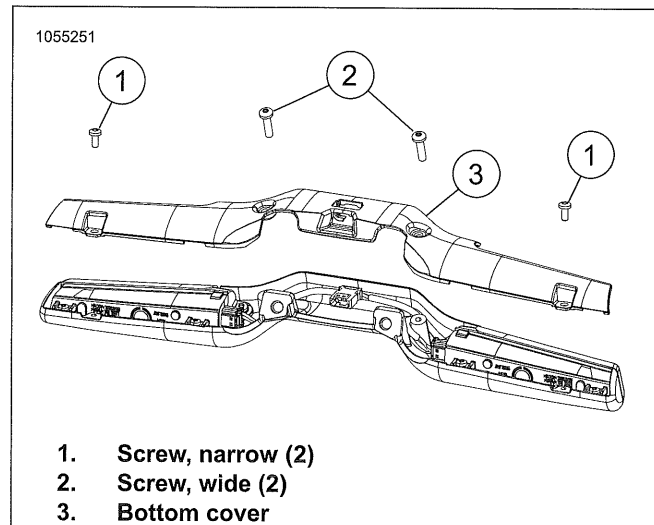

Figure 7-73. Lightbar Bottom Cover
2. See Figure 7-73. Remove bottom cover.
- b. Remove cover (3).
2. See Figure 7-73. Install bottom cover.
- a. Install cover (3).
- b. Install screws (2).